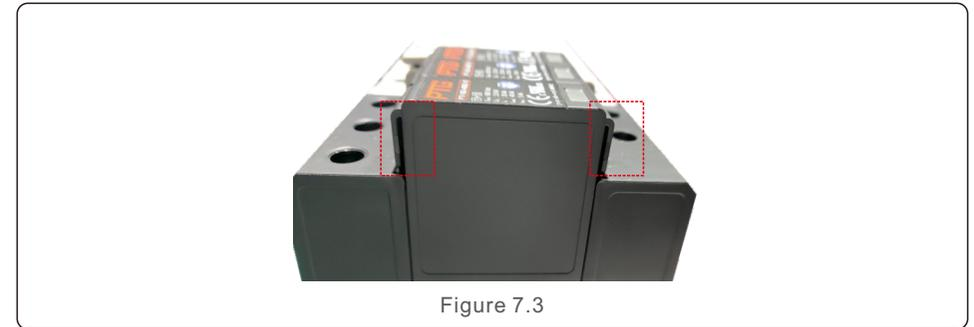

Figure 7.3
5. Press and hold the spring clip on the upper and lower sides of the damaged surge protection module and remove it. (See Figure 7.3)